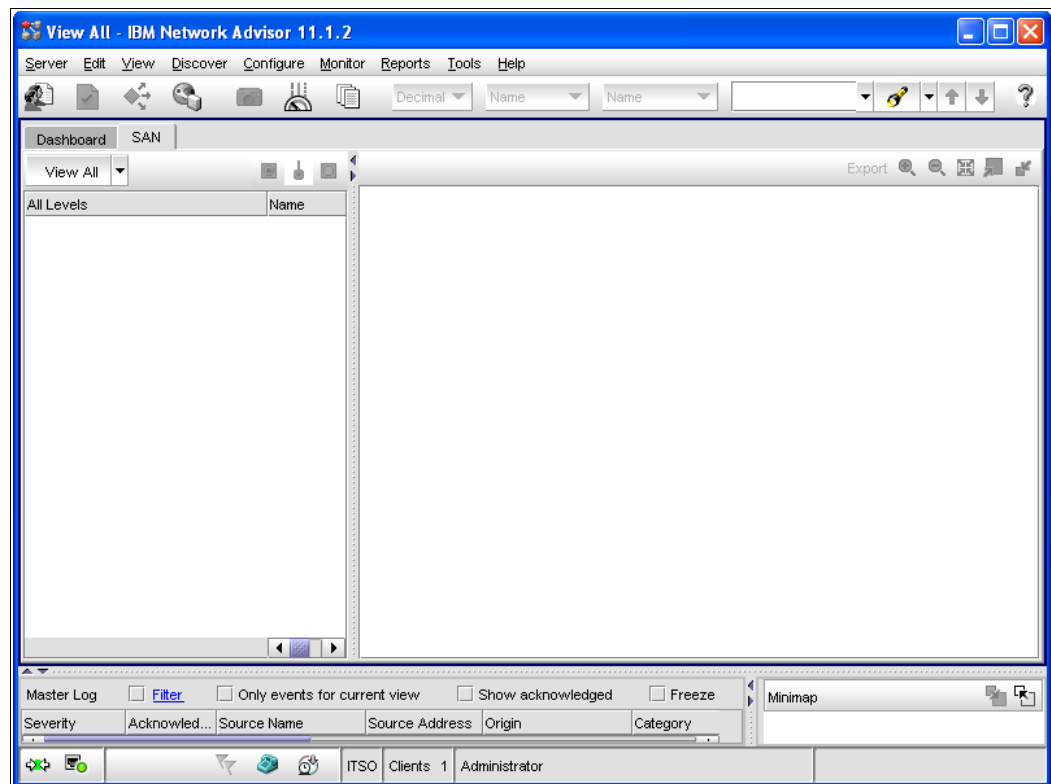

Figure 8-15 IBM Network Advisor first startup
18. You will see the IBM Network Advisor Login Banner, which you can change or remove if it is not needed. This can be done after clicking **OK**. Figure 8-15 will appear.